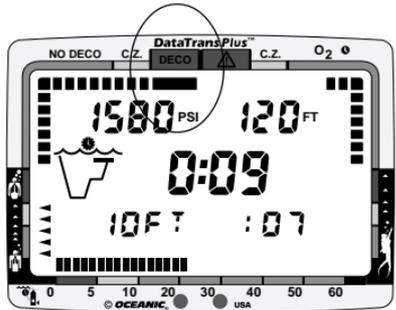

Fig. 85 - Decompression Mode
**Decompression diving should therefore be strictly avoided.** The DataTrans Plus is designed to help you by providing a complete representation of how close you are to entering decompression. In the event that you do inadvertently enter decompression, the red zone of the Tissue Loading Bar Graph (Fig. 85), the DataTrans Plus can provide you with limited information to help you ascend to the surface, if you follow the instructions given in this section.